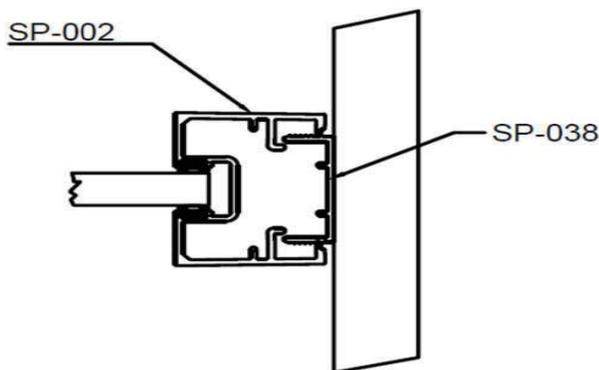

Figure 5: Detail Drawing 41
Step 5: Install shallow glazing channel to end of opening (see fig. 5).